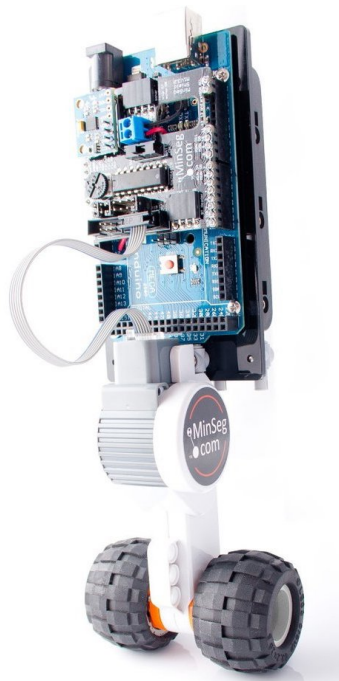

Figure 1 The MinSeg™ balancing robot.
In this laboratory session we will develop Kalman filters and a linear-quadratic (LQ) controller for the MinSeg™ balancing robot, see Figure 1.